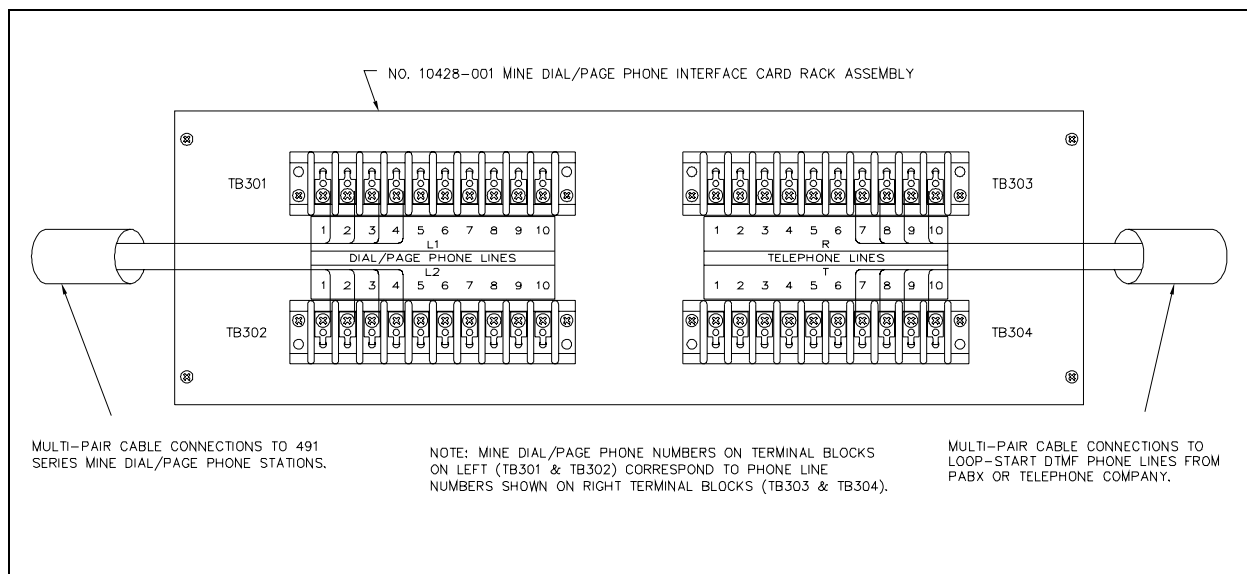
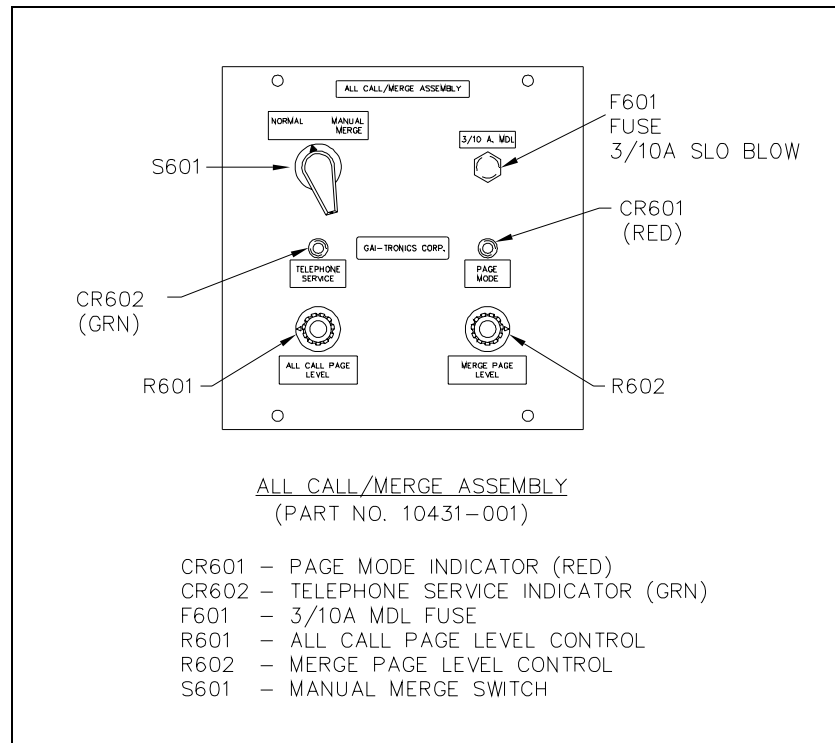
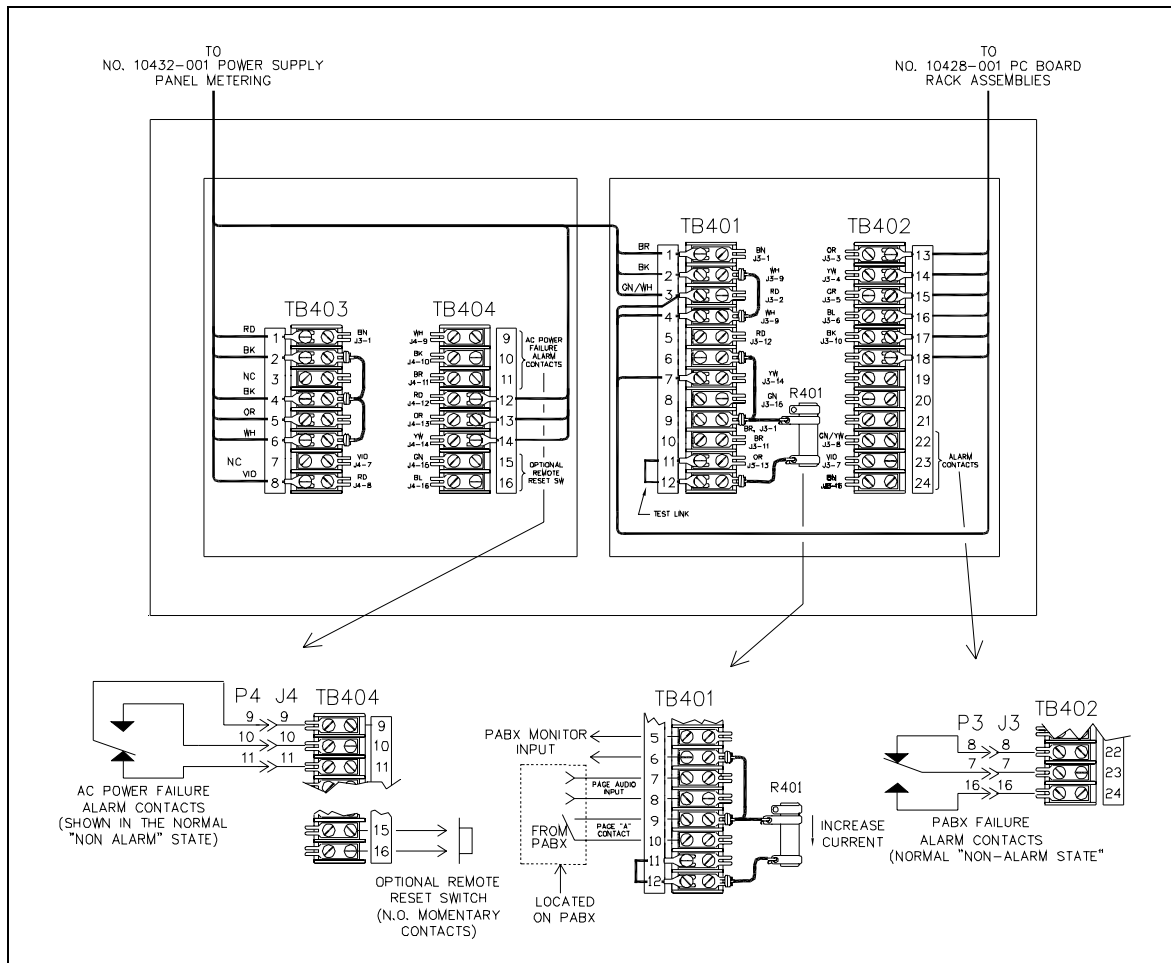
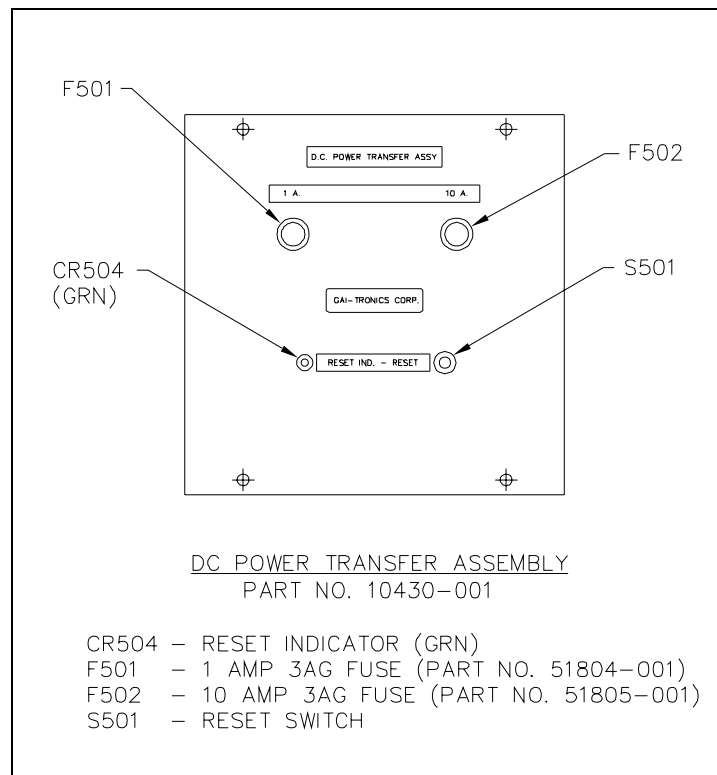

Figure 3. Wiring Diagram for 10428-001 Dial/Page Phone Interface Card Rack Assembly
Figure 4. All Call/Merge Assembly 10431-001
Figure 7. MDPP1 Wiring Information
Figure 10. DC Power Transfer Assembly 10430-001
Each PCBA Rack assembly occupies the space of a 5.25 × 19-inch rack panel and includes four terminal blocks on the rear surface. The four terminal blocks include two marked **DIAL/PAGE PHONE LINES** to connect ten pairs of wires from ten Mine Dial/Page Phones; and two marked **TELEPHONE LINES** to connect ten pairs of wires to the telephone switchboard. See Figure 3.
The All-Call/Merge assembly allows all-station paging in the normal dial access, or in the event of a telephone switchboard failure, system-wide paging with push-button page switches on the 491 Series Phone front panel. This assembly includes an audio amplifier and three relays, and is built on an 8-inch square plug-in chassis plate. Refer to Figure 4.
The housing for All-Call/Merge and DC Transfer assemblies occupies the space of a 10.5 × 19-inch rack panel and houses the two assemblies described above. The housing includes four terminal blocks for input/output connections. See Figure 7.
Refer to Figure 3 for wiring details. Screw terminal barrier blocks are provided for telephone line connection. **NOTE: Telephone line connections are not polarity sensitive.** In addition to a line (a pair of wires) for each station from the PABX to the interface cabinet, three additional lines (pairs of wires) are required for these system functions. See Figure 7 for wiring details.
This function is taken from the paging capability built into, or provided optionally by, the PABX. One pair from the PABX provides an "A" relay contact (normally open) and the other provides an audio paging signal at normal telephone line level. The "A" contact will have to switch the positive leg of the monitor voltage into an electronic relay circuit. Maximum current through the contact will be 30 mA dc. See Figure 7.
The cable from the Mine Dial/Page Phone stations should be routed up the left side of the cabinet as seen from the rear. The wires in this cable connect to terminal strips marked MINE PHONE LINES. One wire of each pair goes to a L1 terminal and the other goes to the corresponding L2 terminal immediately below it. **Proper polarity must be maintained in wiring this circuit.** Where black and white coded wiring is used, the white wire should be for L1 and black for L2. Refer to Figure 3.
The All-Call/Merge assembly and the DC Power Transfer assembly should be installed and secured in their respective enclosures before power is applied to the system. See Figure 4 and Figure 10.
The green reset indicator (CR504) on the front panel of the DC Power Transfer assembly should be off and the ac power failure relay contacts will be in the alarm state. See Figure 7 and Figure 10. Press the reset switch (S501) to reset the power failure alarm relay and light the reset indicator.
Current to operate the switchboard monitor relay within the All-Call/Merge assembly is controlled by an adjustable resistor attached to terminal block TB401 on the enclosure for the All-Call/Merge assembly. See Figure 7. Because the current also varies with the resistance of the telephone switchboard cable, this resistor is adjusted to compensate for this cable loss.
The Monitor Relay current can be measured by temporarily replacing the “test link” between terminals 11 and 12 on TB401 with an ammeter. See Figure 7. The current should be between 20 and 40 mA when properly adjusted. The monitor relay contacts are rated for 2 amps, 28 V dc/120 V ac.
Relay contact outputs are provided for ac power failure alarm (TB404-9, 10 and 11) and PABX failure alarm (TB402-22, 23 and 24). These relay contacts can be used to activate audible/visual alarms such as bells or strobe lights as required. See Figure 7 for wiring details. These relay contacts are rated for 2 A, 28 V dc/120 V ac.
2. Press RESET button on panel of DC Power Transfer assembly. See Figure 10. If ac power has been temporarily interrupted, the RESET INDICATOR should turn on and the alarm system should turn off.
5. If the system is not operating, check battery voltage indications on DC VOLTS meter by turning VOLTAGE switch to BATTERY-B position. Also, compare reading with switch in C-CHARGE position. If it is not the same, check 10 A fuse (**F502**) on panel of Power Transfer assembly. See Figure 10.
Battery charging current as indicated on CHARGE CURRENT meter (M701) on panel of Power Supply/Metering Panel assembly after restoration of ac power can be as high as ½ amp depending on length of outage and prior battery condition. If there is no indication of charge current, check both fuses on the front panel of DC Power Transfer assembly. See Figure 10.
2. Check switchboard monitor voltage on terminals 5 and 6 of terminal board **TB401** using dc voltmeter (positive on 6). If higher than normal, check **R401** and test link on same terminal board (**TB401**). Also, check indicator light itself (**CR602**) and relay (**K653**) located within the All-Call/Merge assembly. Refer to Figure 7.
2. Check for blown fuse (**F501** or **F502**) or other defect in the DC Power Transfer assembly. See Figure 10.